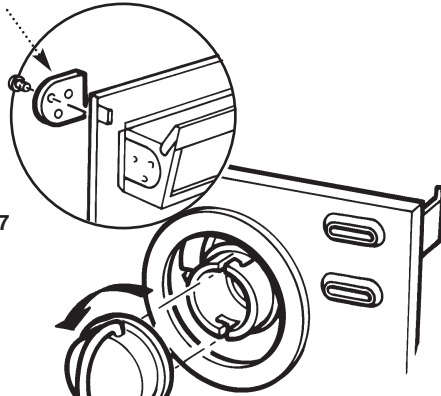

Fig. 27
1. Remove the rear air box blanking plate from the back plate by releasing the three screws (Fig. 27).